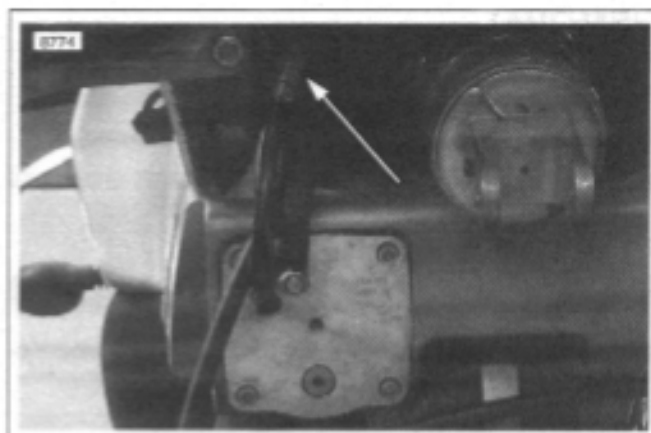

Figure 4-99. Fuel Pump connector [86] (swingarm removed for illustration)
- a. See Figure 4-99. Disconnect the 4-place fuel pump connector [86]. Connector is located on the left side, above the fuel pump.